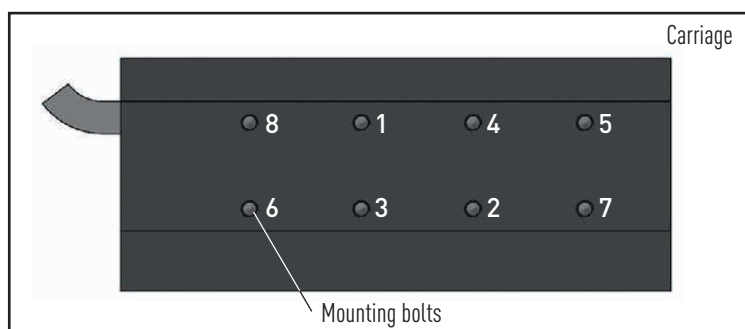

Fig. 5.4 Tightening pattern on the forcer's mounting bolts
- ▶ Using suitable mounting bolts, screw the forcer [3] to the carriage, from the inside to the outside (see Fig. 5.4). See Table 5.3 and Table 5.4 for the tightening torques.